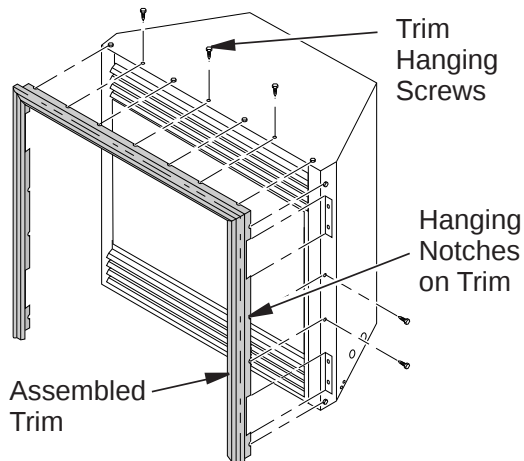

Figure 7 - Attaching Perimeter Trim to Fireplace
8. Tighten trim hanging screws (#10 x 6.25 shoulder) into holes in cabinets. Place the assembled trim onto fireplace cabinet. Align hanging notches on trim with hanging screws on side of fireplace (see **Figure 7**). Push trim firmly into place, sliding hanging notches over hanging screws.
9. Install trim after final finishing and/or painting of wall (see *Figure 7*, Page 11).